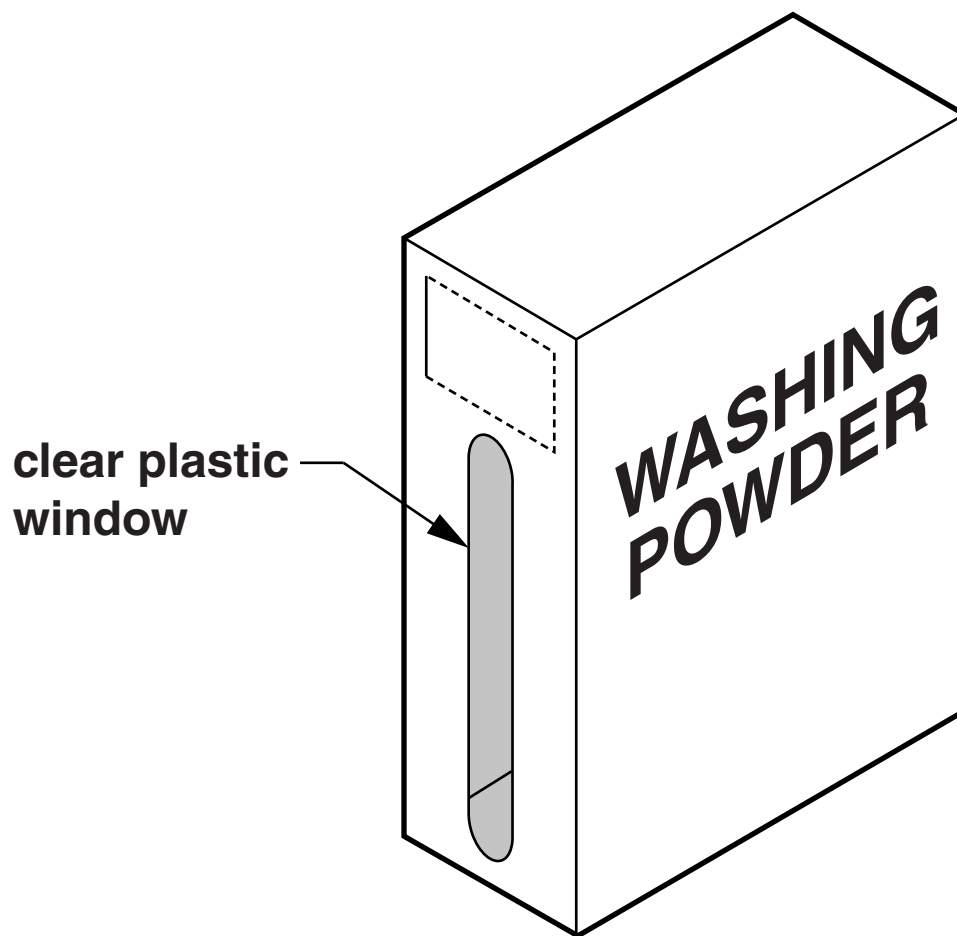

Fig. 7
- 5 Fig. 7 shows a washing powder box made from cardboard.